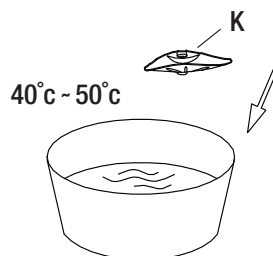

Fig. 7
- Put the soap dish (K) into 40°C - 50°C hot water for a minute to soften the plastic core of the soap dish, see Fig. 7.